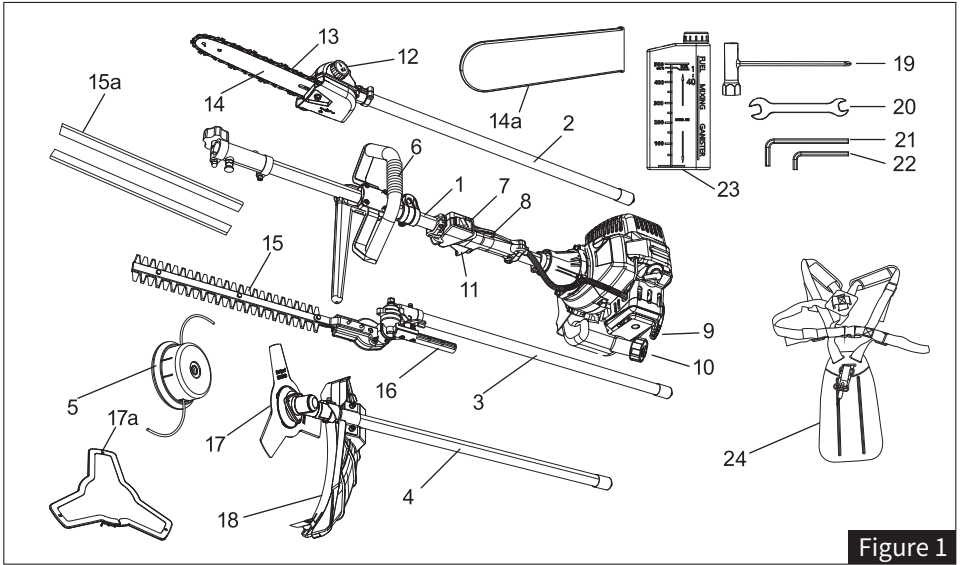

Figure 1
- Always attach the transport guard to all cutting tools (see Figure 1, Item 14a, 15a, 17a).